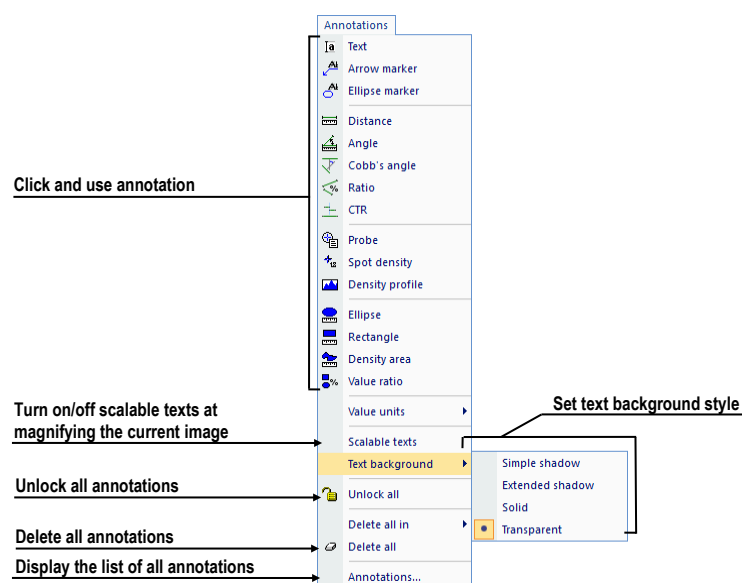

Figure 39 – Annotations menu
- **Annotations** – functions for annotation management. Creating various types of annotation and measurements in the current view and removing and editing selected annotations (see Figure 39).